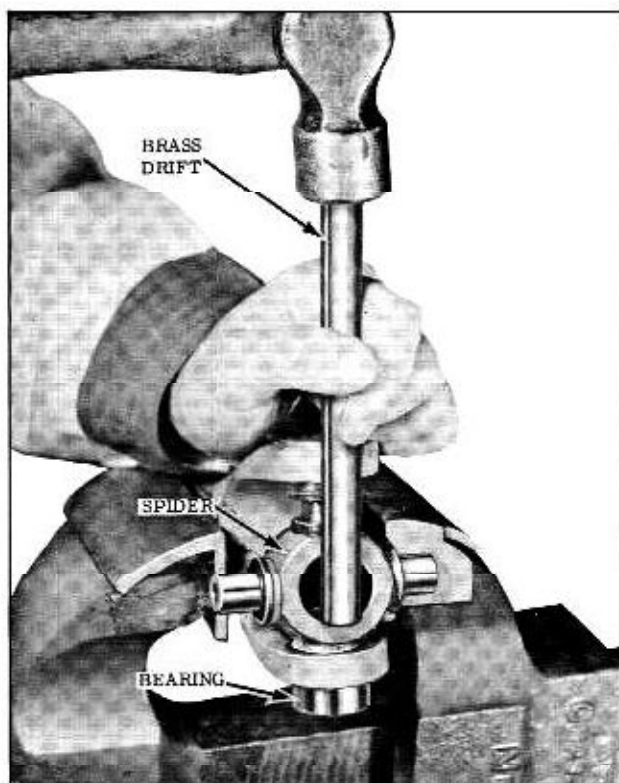

Fig. 6-5 Partial Bearing Removal (Saginaw)
8. Drive on spider until bearing is partially forced out of yoke. (Fig. 6-5)